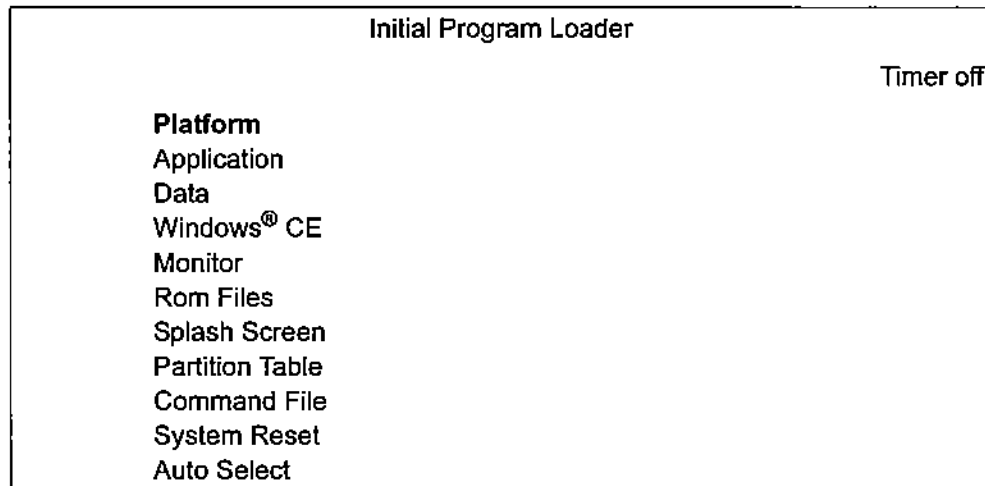

Figure F-13. IPL Mode Menu
3. **Select the Platform Upgrade Mode** - see Figure F-13. Use the **B** button (Up) to scroll up to the *Platform* option and select the option using the **C** button (Select/Action).